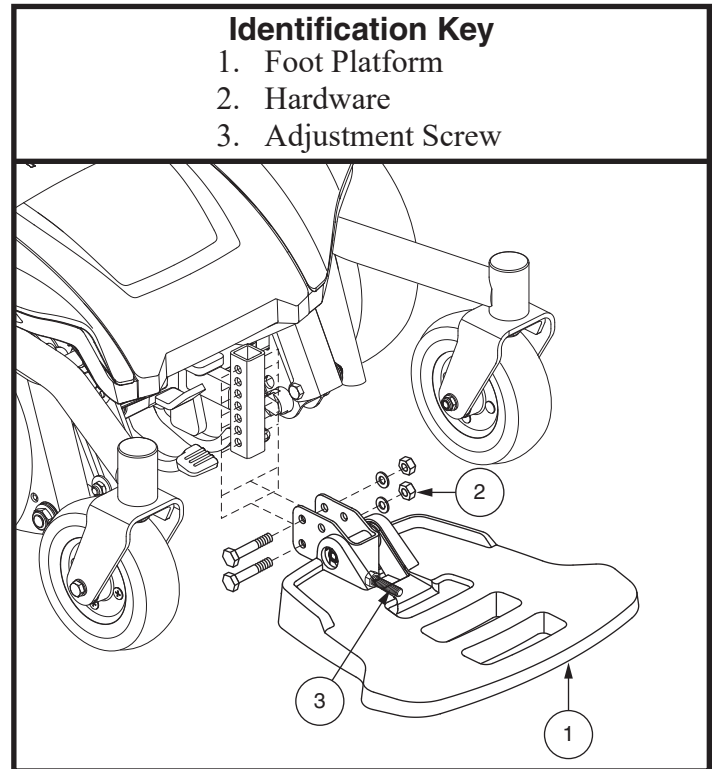

Figure 13. Seat Foot Platform Adjustment
1. Remove the hardware from the foot platform bracket. **See figure 13.**
You can adjust the angle of the foot platform. **See figure 13.**